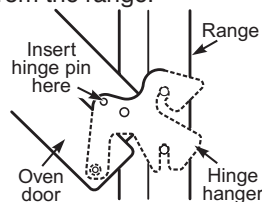

Figure 2
1. See Figure 2. Open oven door approximately halfway and insert a hinge pin into the door removal pin hole on each side of the door. Do not remove hinge pins while the door is removed from the range.